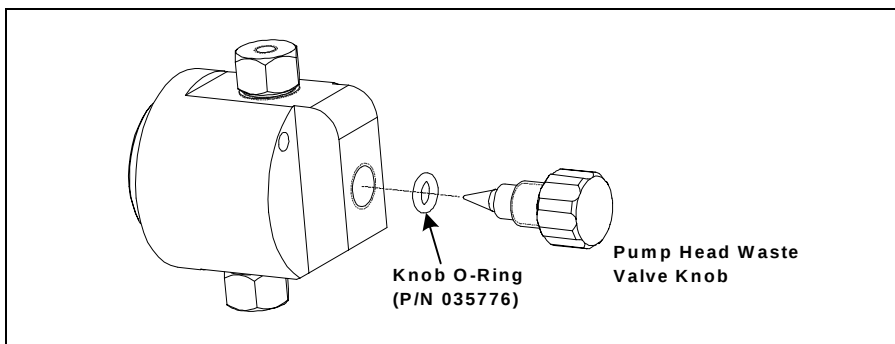

Figure 5-4. Pump Head Assembly
4. Remove the valve from the pump head housing by turning the knob counterclockwise until it comes loose from the housing (see Figure 5-4).